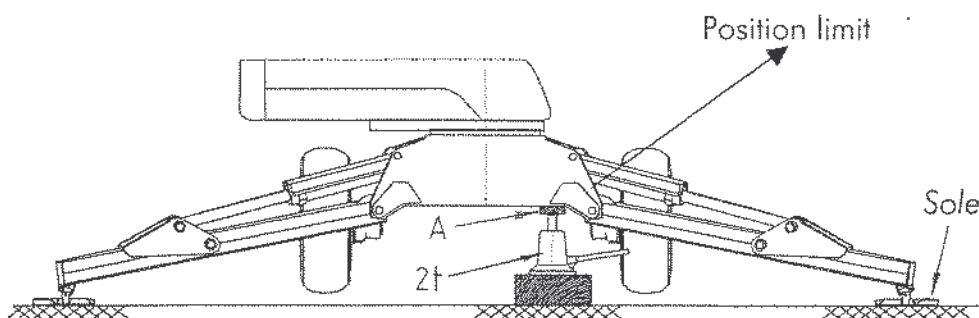

Figure 8-1.2
8.1.6 Place a jack or other hoisting apparatus by an outrigger (see figure 8-1.2). Place e.g. a board (A) etc. between the jack and the chassis. Use the jack to lift the chassis until the sole comes slightly off the ground. This should activate the sound signal. The sound signal will stop when the outrigger is lowered back to the ground.